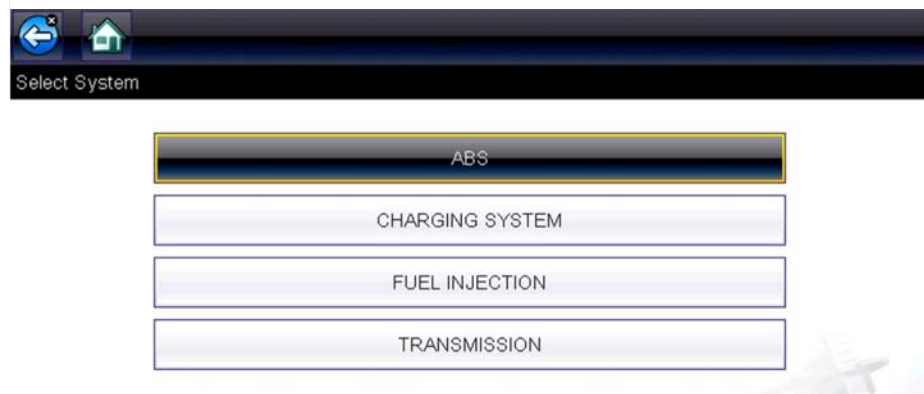

Figure 4-5 Available systems menu
- b. **Cancel** to return to the previous screen.A list of systems available for testing displays (Figure 4-5).